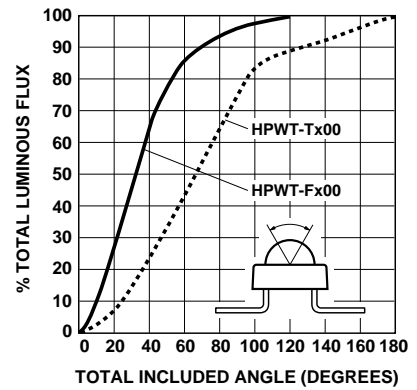

Figure 5. HPWT-xx00 Percent Total Luminous Flux vs. Total Included Angle.
2. $\theta_{0.90v}$ is the included angle at which 90% of the total luminous flux is captured. See Figure 5.
- $\theta_{0.90\text{ V}}$ is the included angle at which 90% of the total luminous flux is captured. See Figure 5.